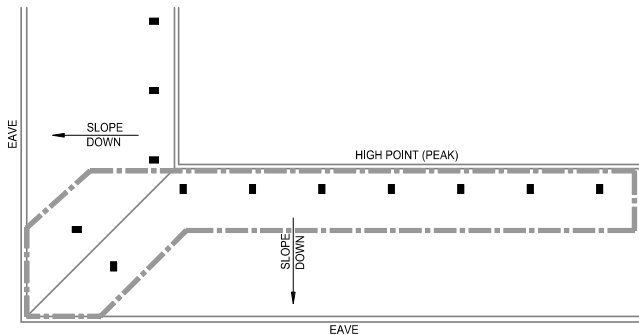

FIGURE 22A: 1 ROW PROTECTION CALCULATION
- Calculate the 7 most hydraulically demanding contiguous DS sprinklers located along the high point plus the 2 most demanding sprinklers along the hip line. See FIGURE 22A.